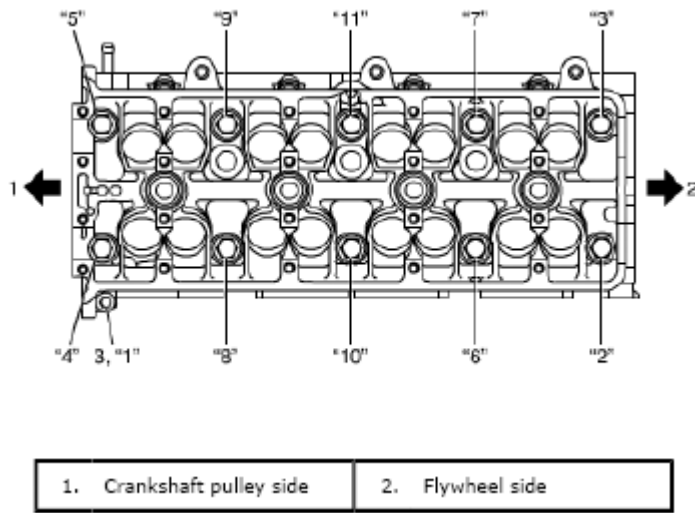

Fig. 110: Identifying Cylinder Head Bolt Sequence
2. Loosen cylinder head bolts in such order as numbered in Fig. 110 and remove them.